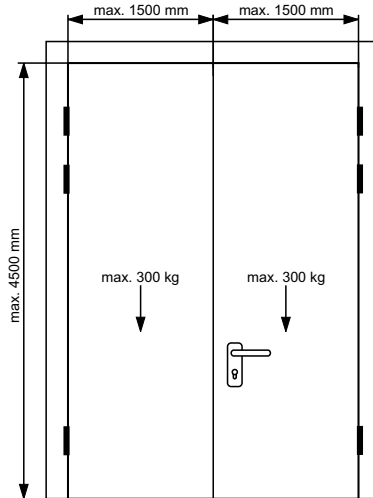

Fig. 2: Max. door dimensions and weights
- Fix the keepers (latch&deadbolt striker/striker) into the door frame or passive leaf. The latchbolts and deadbolts must be able to glide into the strikers freely and without friction at all times. If necessary, adapt the keeper shapes to the door situation (Fig. 2).